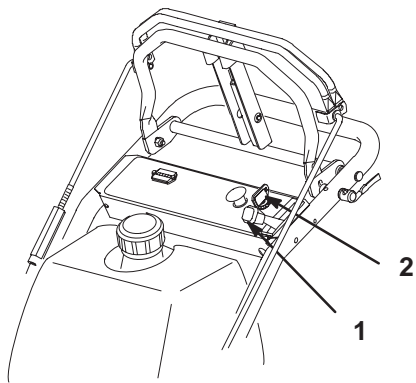

Figure 13
2. Move the throttle control to choke position before starting a cold engine (Fig. 13).
3. Turn ignition key to start. When engine starts, release key (Fig. 13).
1. Move the throttle lever to slow (Fig. 13).
2. Turn the ignition key to off (Fig. 13).